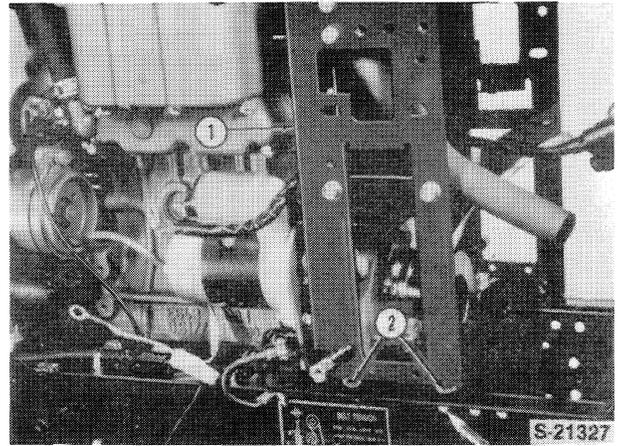

Figure 18
- 22. Remove the four battery stand to frame attaching bolts (2) and remove the battery stand (1) from the tractor, Figure 18.